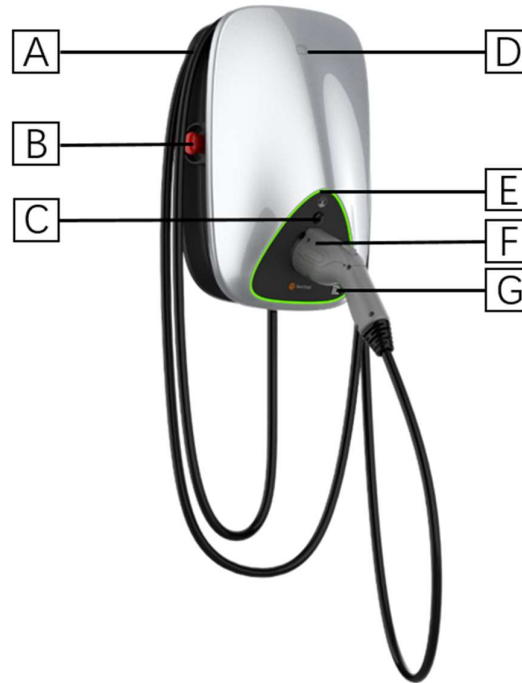

Figure 3-3 Appearance of the wall-mounted (Subject to the actual product)
- When charger is not used, the charging cable should be rolled up and put back into the cable winding trough in position [A] as indicated in figure 3-3, and the charging connector should be inserted into the designated position [F] for safe storage.